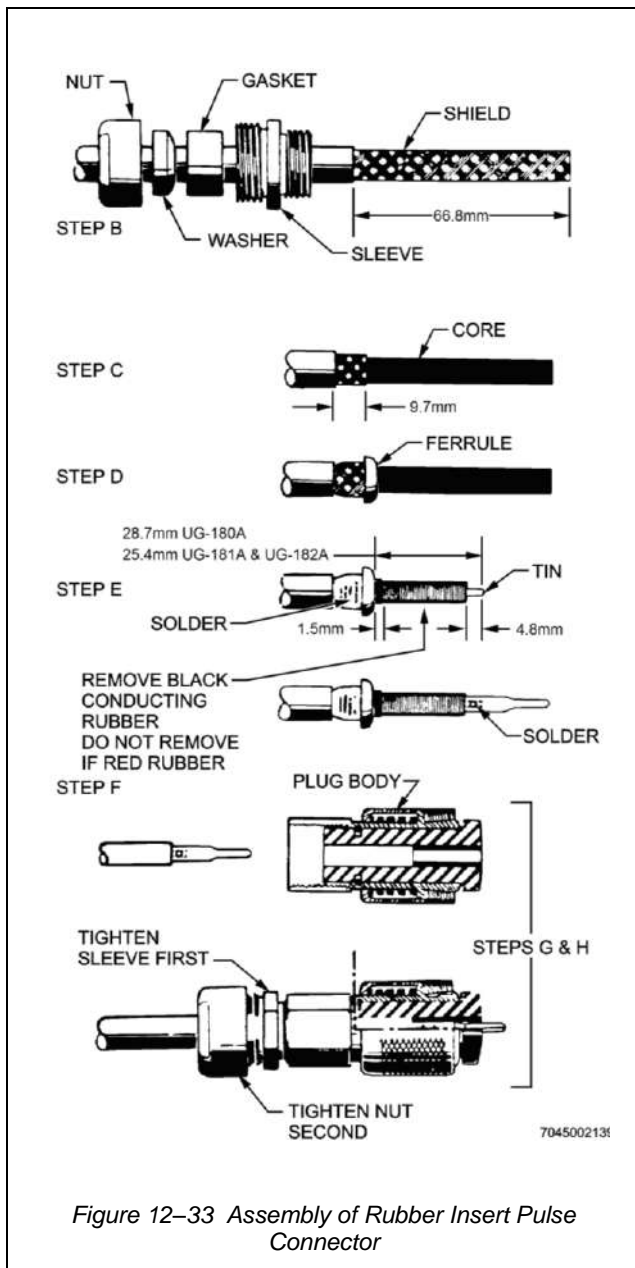

Figure 12-33 Assembly of Rubber Insert Pulse Connector
25. When attaching rubber insert pulse connectors to coaxial cable (see Figure 12-33), use the following procedure: